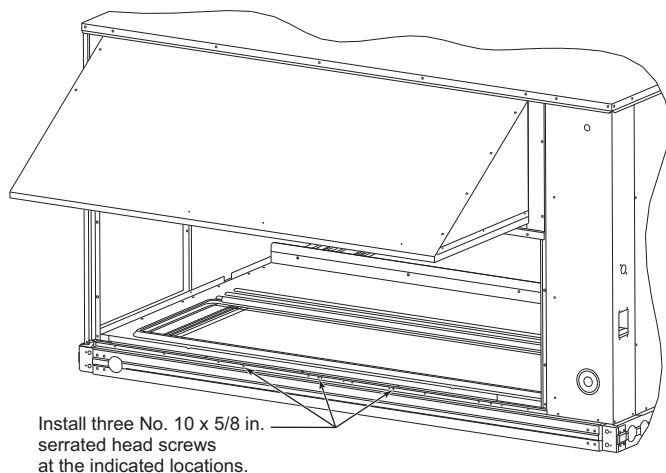

Fig. 7 — Install Screws to Locate Power Exhaust Fan Assembly for Vertical Return Air Applications
3. Install three No. 10 x 5/8 in. serrated head screws (AL48AM217) in the three locations shown in Fig. 7. The screws should be installed very loose.